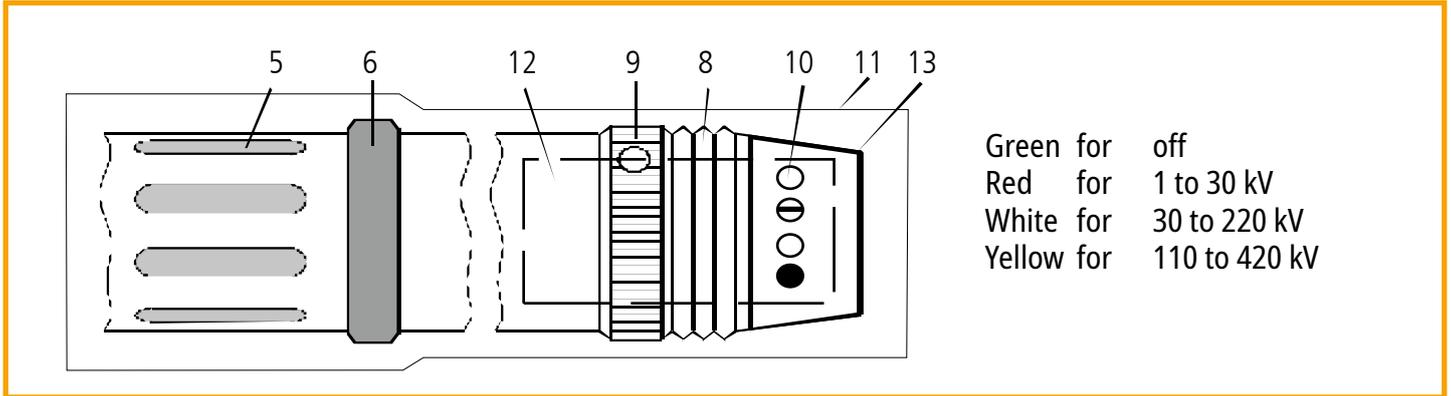

Bild 6 Operating head with indicating element
- The high-voltage indicator is a multi-range voltage indicator. You can switch between the voltage ranges by means of a yellow switching ring (9) on the operating head (see Figure 6).
- ⇒ The high-voltage indicator has a yellow knurled **switching ring (9)** on the operating head, with which the device is switched on by turning it and at the same time the corresponding nominal voltage range is activated (see Figure 6).